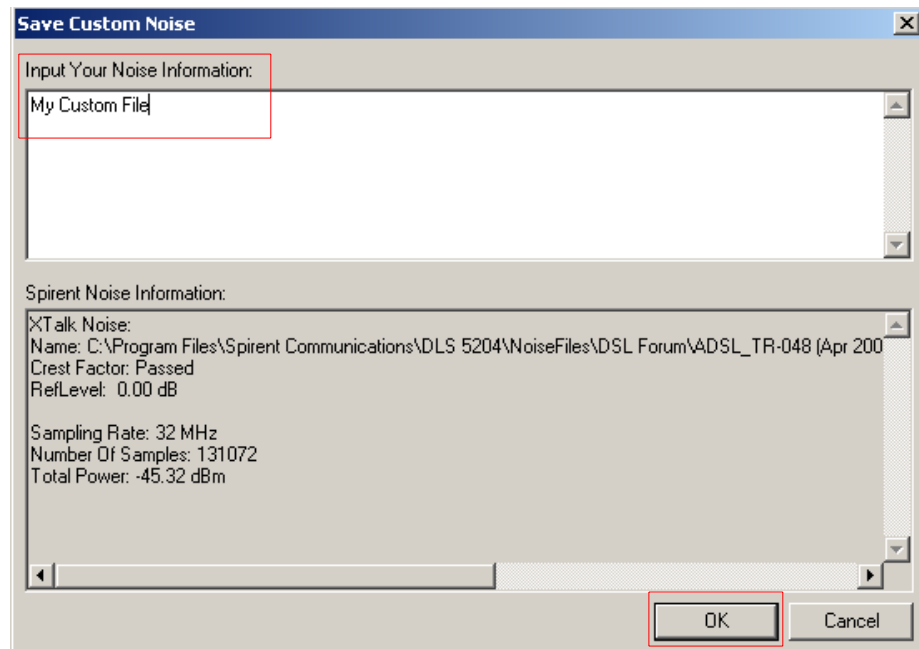

Figure 3-24. Save Custom Noise Dialog Box
- 3 Enter the desired descriptive text when the following prompt appears: *Input your Noise Information* (see Figure 3-24).